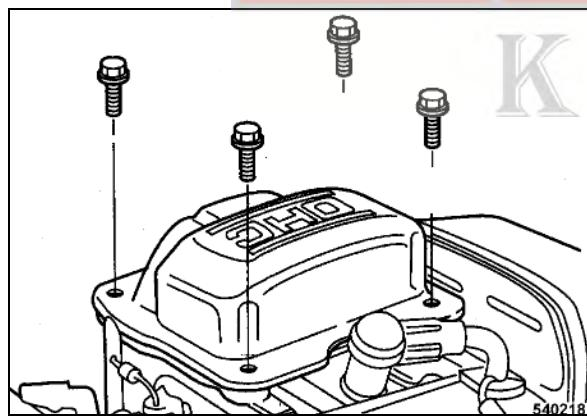

Fig. 44 □
- Unscrew the fastening screws for the cylinder head cover (Fig. 44).